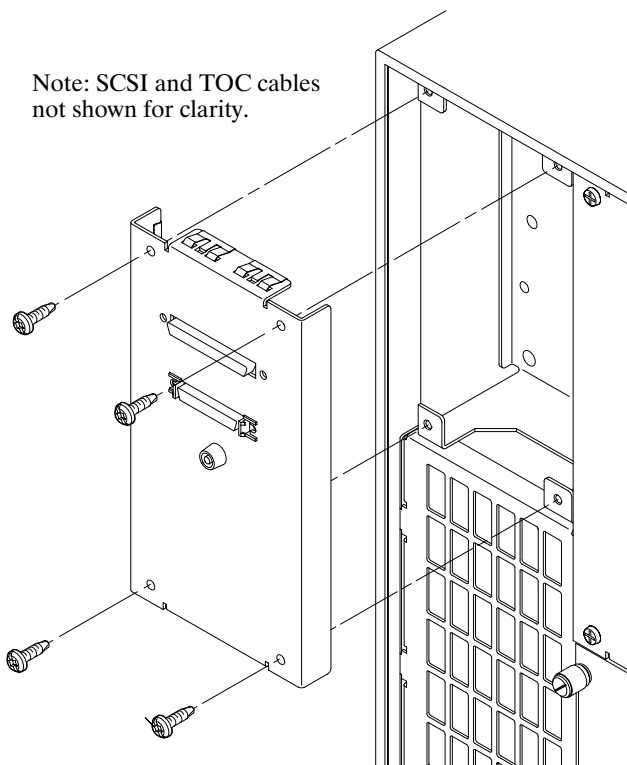

Figure 11.SCSI Bulkhead removal
1. Remove the four screws from the SCSI Bulkhead. Do not detach the cables, the bulkhead can be allowed to hang down **See figure 11.**